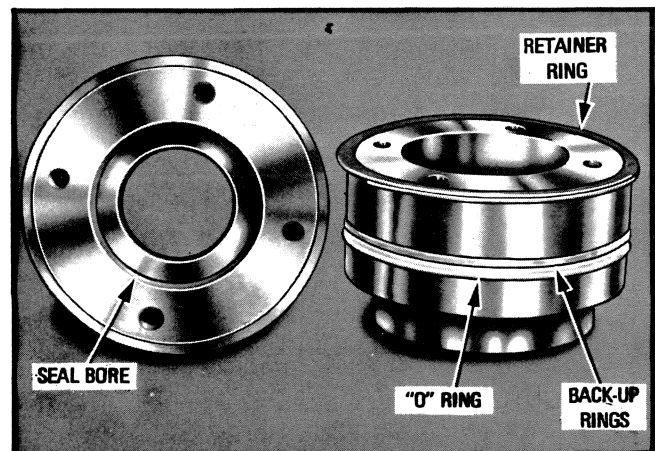

Fig. 6—Head Assembly
2. Place new "O" ring and back-up ring on cylinder head. The concave side of the back-up ring must be turned toward the "O" ring. The flat side of the "O" ring must be facing to the same end of the gland as the rod monoseal. See Fig. 6.